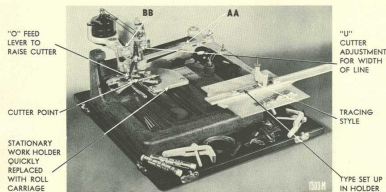

FIG. 5—3-Q GENERAL PURPOSE ENGRAVER
6. If the work is not too thick it can be laid directly on the rubber rolls of the roll carriage and held with clamps, with the carriage locked in place with set screw at right hand side, and with lever N connecting with pantograph as Fig. 5.
INSTRUCTIONS FOR NO. 3-Q [Fig. 5]
To change the reduction from 2 to 1, as shipped, to 4 to 1 (as Fig. 5) unscrew, with pin wrench, nut AA and nut BB and lift off the pantograph assembly. Replace pantograph and fit on the pins as in Fig. 5. Then screw down nuts as before. The work holder must also be shifted with change of reduction so that cutter will come over the work. Take out the screws which fasten the work holder to the base and move the work holder back till the holes at its front are in the same position. Fasten the work holder to the base in its new position. The stationary work holder is fitted for engraving pens (without rotation) and thin flat objects. The pen supports may be moved back and forth for different lengths of pens or pencils by loosening screws with pin wrench. For engraving small block letters on pens from brass type furnished, the pen may be held stationary, exactly like illustration Fig. 5. For engraving large signatures on pens the roll carriage may be substituted for the stationary work holder. Large flat or curved work is mounted for engraving by removing the stationary work holder and clamping work to the base of the machine as described on previous pages.